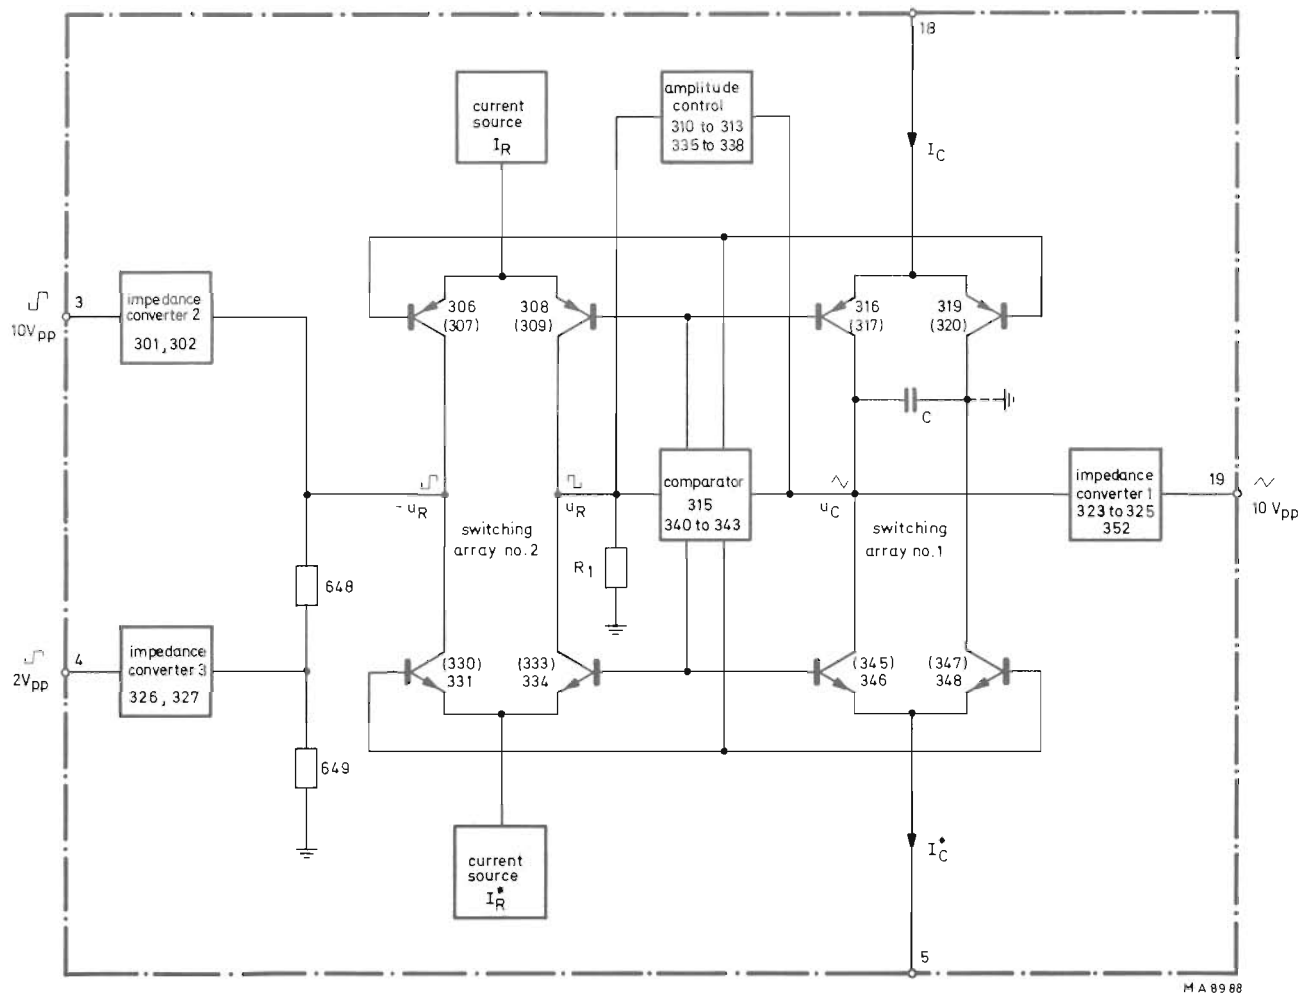

Fig. 7. Block diagram of the oscillator U3
The oscillator, see figs. 7 and 22, mainly consists of:
- 3.1.3.2. Voltage-current converters U5/351 and U5/352 are controlled by the voltage between input SWEEP IN and potentiometer FREQUENCY. The emitters of transistors 301 and 305 are brought to the same potential difference by feedback. The frequency-determining resistor $R = (U2/608 \text{ to } 611 \text{ and } 614||616||628) \text{ or } (617 \text{ to } 620)$ which is selectable with switch FREQ. MULTIPL., is located between these two emitters. The last mentioned resistor series applies for the time-asymmetric operation, the switch-over being performed by U1/I. Resistor R determines the emitter currents and consequently the collector currents of transistors U5/301 and U5/305, which correspond to the charging currents I_C and I_C^* (fig. 7).